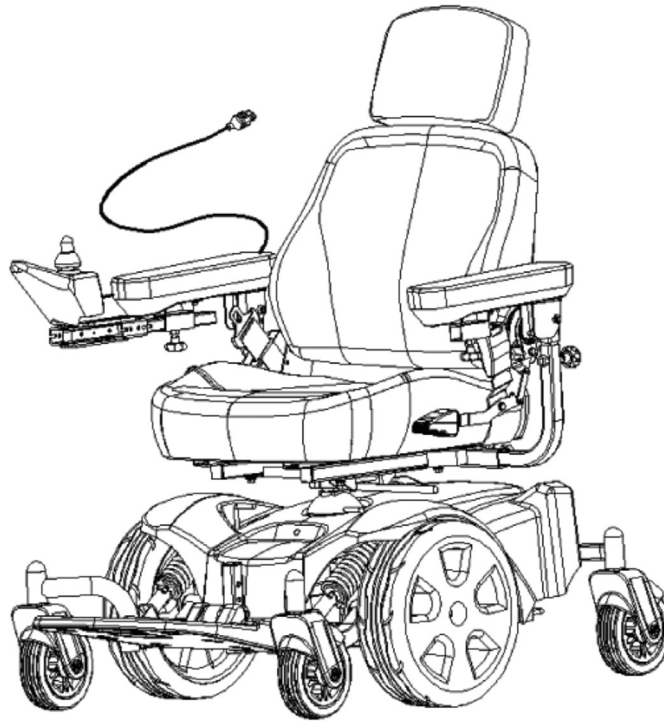

Figure 15. Controller assembly
7. Controller (Joystick) assembly. (See figure 15)